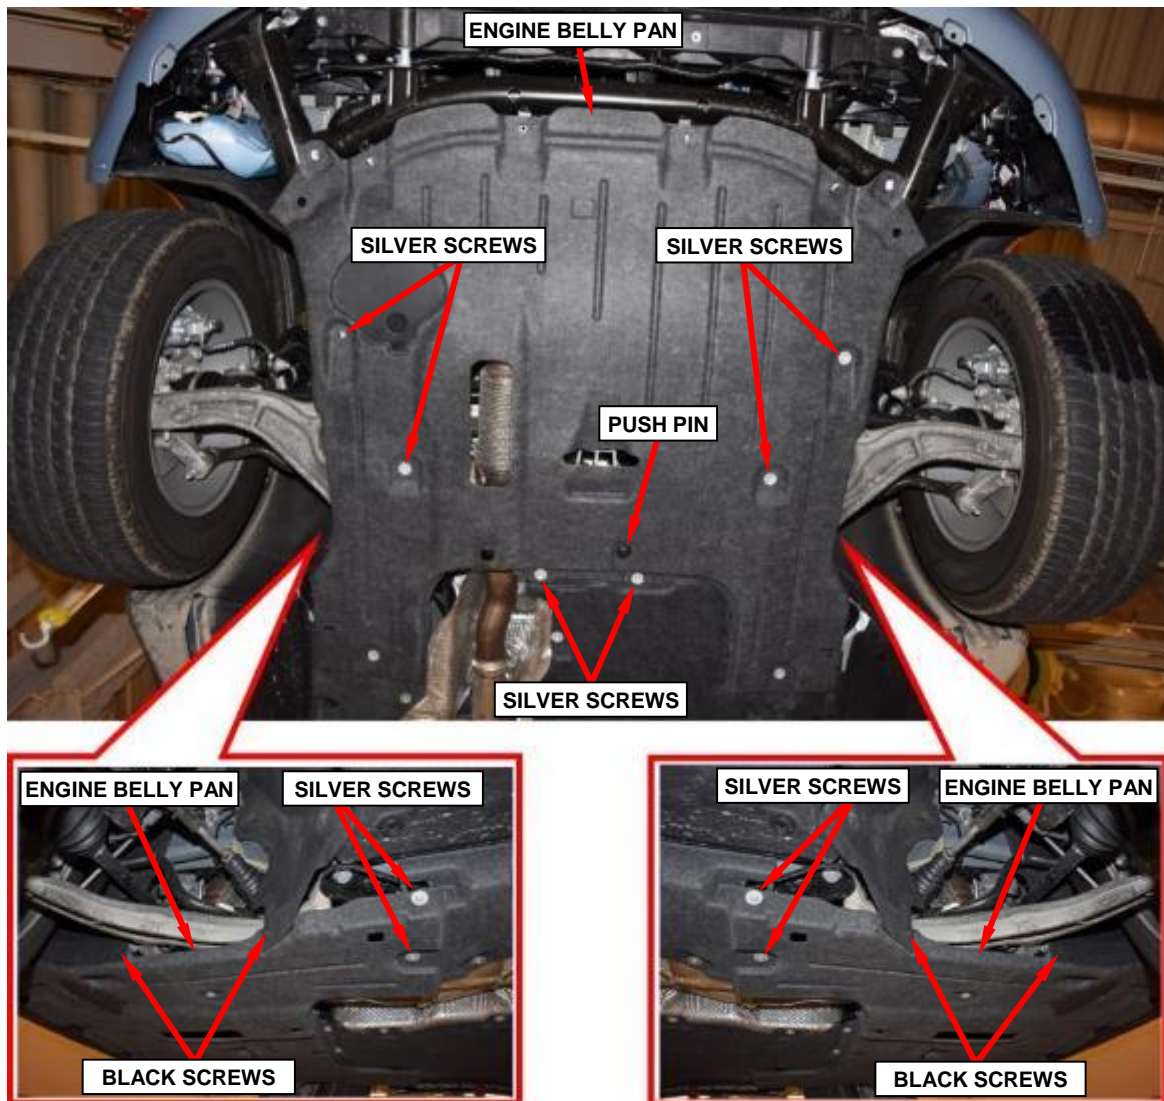

Figure 17 – Engine Belly Pan
31. Remove and save the four black screws (two per side) attaching the wheelhouse splash shields to the engine belly pan (Figure 17).
32. Remove and save the push pin fastener (Figure 17).
33. Remove and save the ten silver screws then remove and save the engine belly pan (Figure 17).